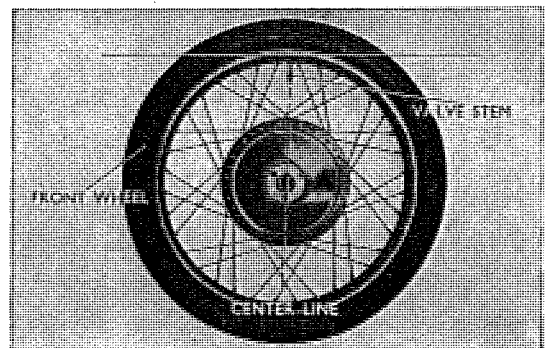

Fig. 4.76 Angle of valve stem
- (b) The valve stem of the tube should be placed pointing toward the axle. If not, air leakage occurs. (Refer to Fig. 4.76)